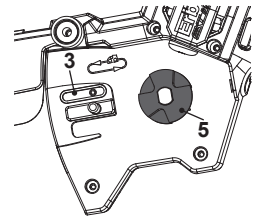
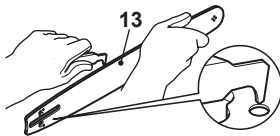

Fig. 20
Fig. 21
1. Disassemble the guide bar (16) and saw chain (15) in reversed order from assembly.
2. Check the oiling port (3) for clogging and clean if necessary to ensure proper lubrication of the guide bar and saw chain during operation. Use a soft wire small enough to insert into the oil discharge hole (Fig. 20).
3. Check the drive sprocket (5). If it is worn or damaged due to strain, have it replaced by an authorised service agent or a similarly qualified person.
4. Clear residue from the rails on the guide bar (16) by using a screwdriver, putty knife, wire brush or other similar tool. This will keep the oil passages open to provide proper lubrication to the guide bar (16) and saw chain (15) (Fig. 21).